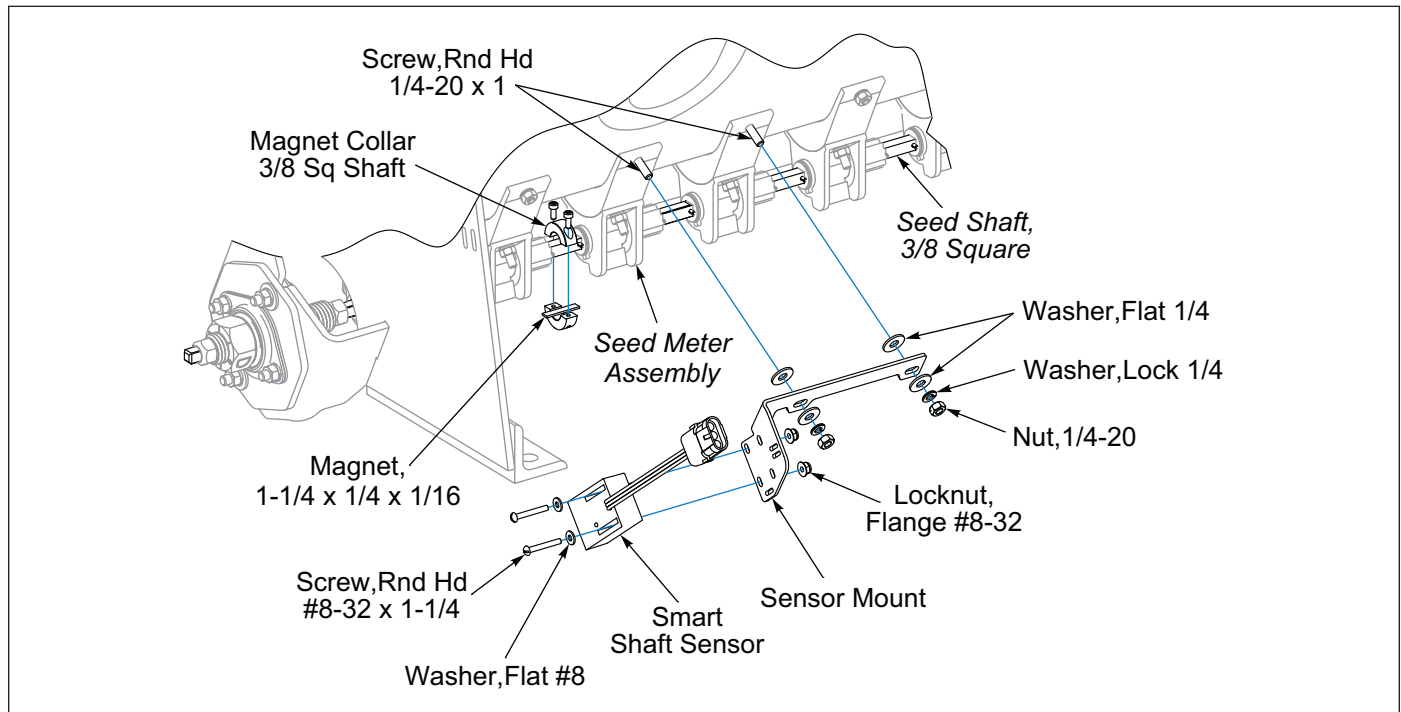

Figure 2-29: Brillion Elite Mini Monitor - Seed Box Seed Shaft Sensor
3. Front RH side Seed Box between the 2nd and 3rd Seed Meter Assembly, place 1-1/4 x 1/4 x 1/16 Magnet on the Seed Shaft. Secure with Magnet Collar. See **Figure 2-29**. Remove the 3rd and 4th Seed Meter front 1/4-20 x 3/4 Round Head Machine Screws that mounts the Seed Meter to the Seed Box and replace them with 1/4-20 x 1 Round Head Machine Screws. Place a 1/4 Flat Washer on each side of the Sensor Mount and install it on the 1/4-20 x 1 Machine Screws. Secure with Lock Washers and Nuts. Install a Smart Shaft Sensor to the Sensor Mount with sensor provided hardware and #8-32